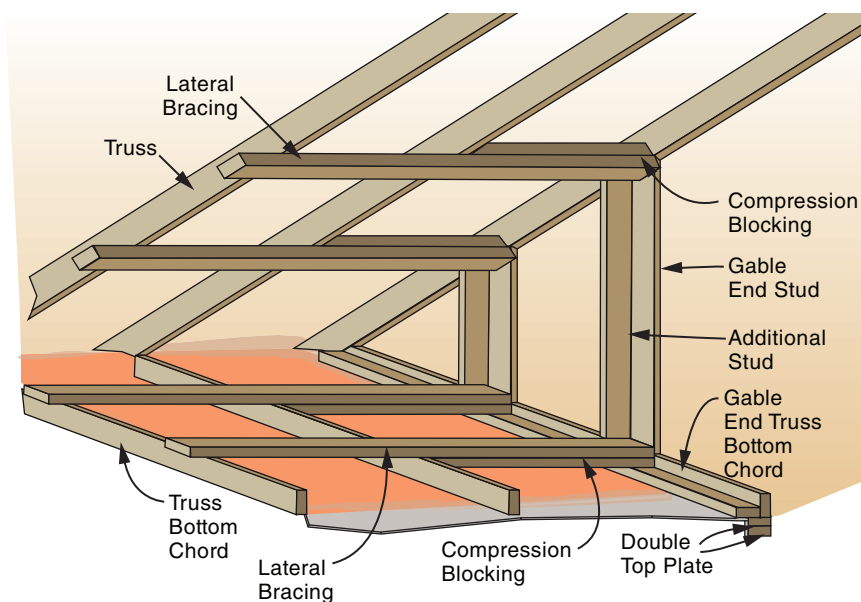

Figure 3. Typical gable end wall bracing retrofit example.
- **Gable ends** can be braced in conjunction with other retrofits or by themselves. The illustration in Figure 3 shows a typical gable end wall bracing system. These improvements are typically inexpensive, allow the loads imposed on the gable end walls to be distributed through multiple roof trusses or rafters, and assist in distributing the wind loads on the gable ends. Additional guidance for gable ends can be found in the *Gable End Retrofit Guide – Florida Division of Emergency Management*.